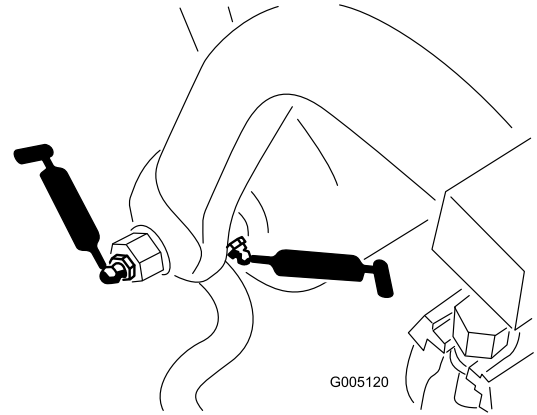

Figure 38
- Pull frame shaft and roller (12) (Figure 38)